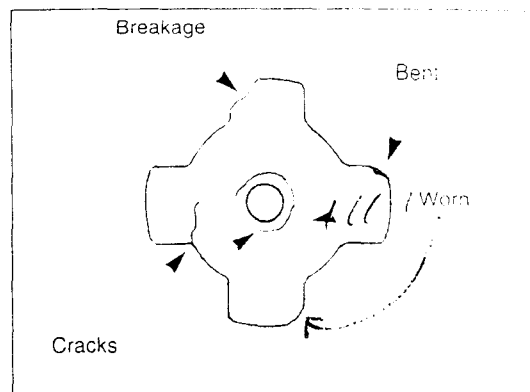

Fig 34
2. Check the blade before use. (Fig. 34)